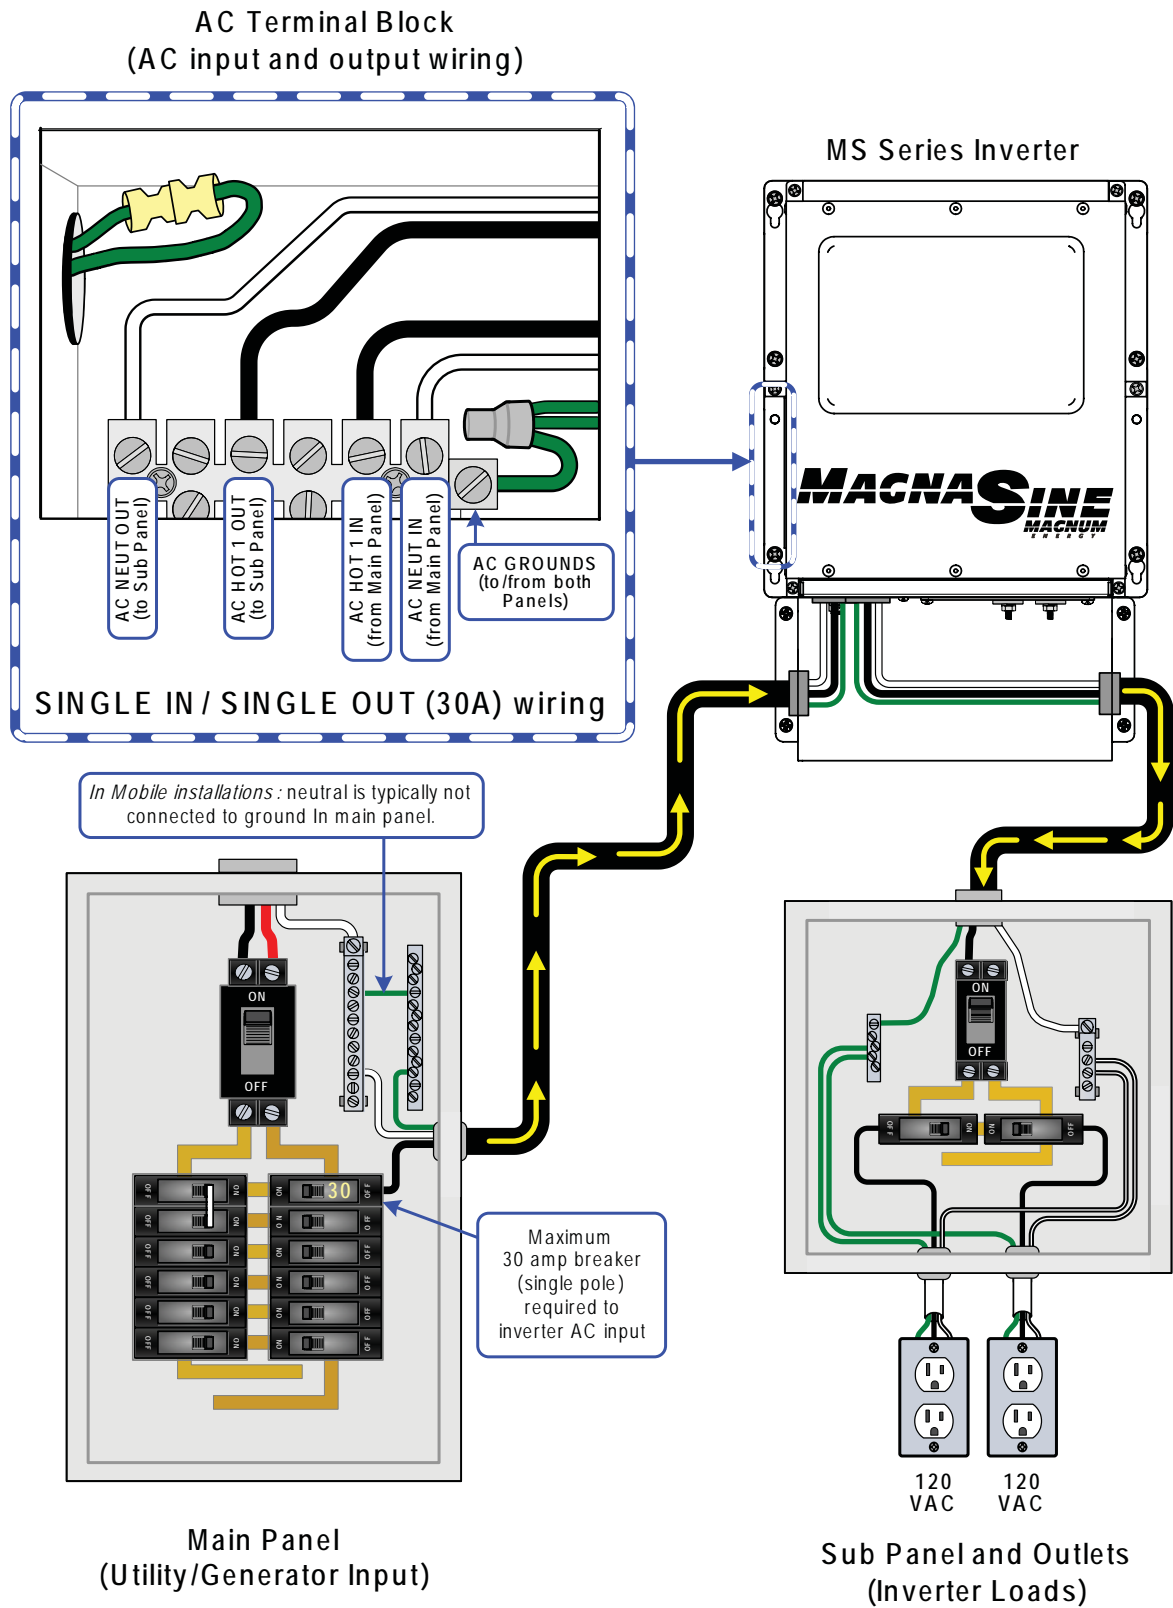

Figure 2-11, AC Wiring for Single In - Single Out (30 A) Configurations
**Info:** Depending on the AC wiring configuration, you may need to connect a wire to the "HOT 2 IN" terminal, refer to your configuration drawing (Figure 2-11 to 2-15).
**Info:** Depending on the AC wiring configuration, you may need to connect a wire to the "HOT 2 OUT" terminal, refer to your configuration drawing (Figure 2-11 to 2-15).
The following table provides the different wiring configurations for installing and connecting the AC conductors into and out of the inverter (refer to figures 2-11 to 2-15 for installation drawings showing these configurations).